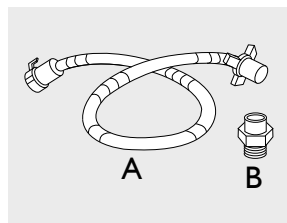

Figura 2.
9. Mangueras llenado (2 unds) (Figura 2 numeral A)
11. Acople (2 unds) (Figura 2 numeral B)